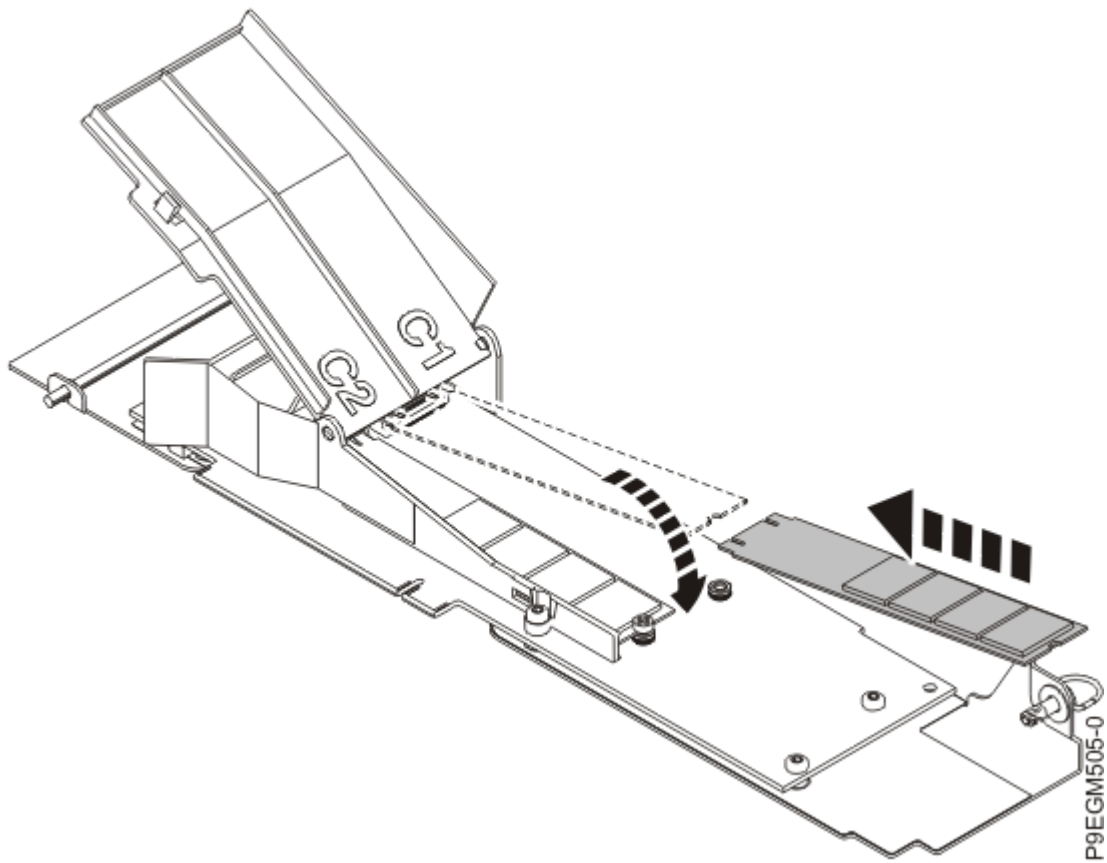

Figure 10. Installing an NVMe M.2 flash module
4. Slide one of the new NVMe M.2 flash modules into the NVMe M.2 carrier card socket. See Figure 10 on page 13.